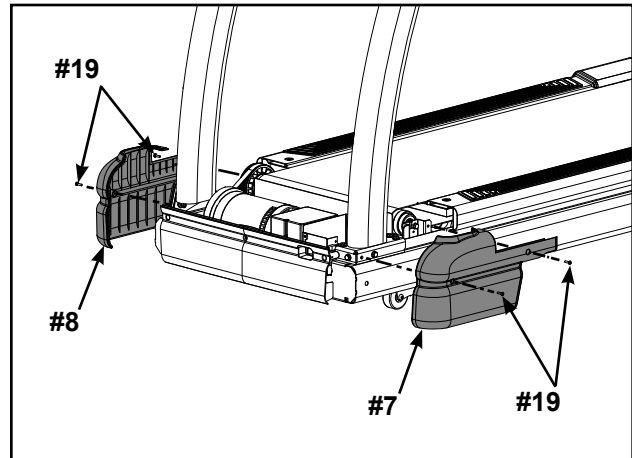

Figure 10
- D. Using a Phillips screwdriver, partially tighten the left motor cover (#7) with two screws 10-32 x .75" (#19). See Figure 10.